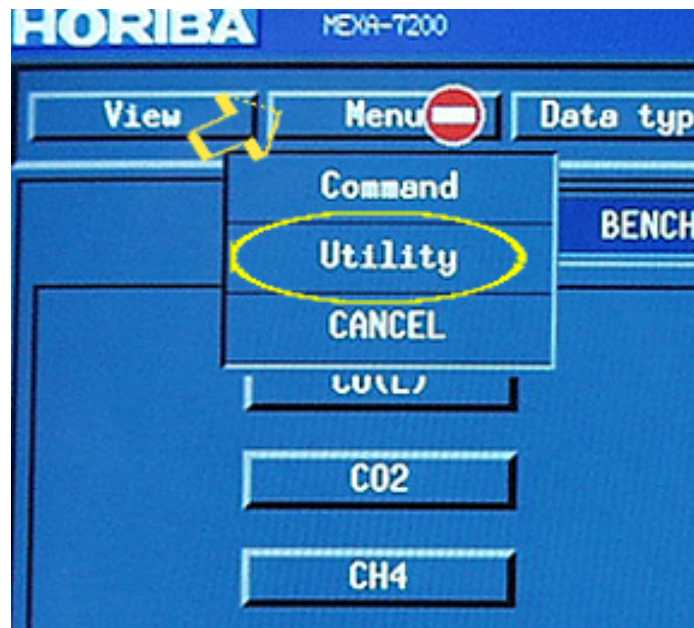

Figure 3
- 105 On the display setup portion of the screen, click on the “Menu” button. See arrow in Figure 3. From the menu items that appear, click on “Utility” (see circle in Figure 3) and the “Utility” screen will appear.